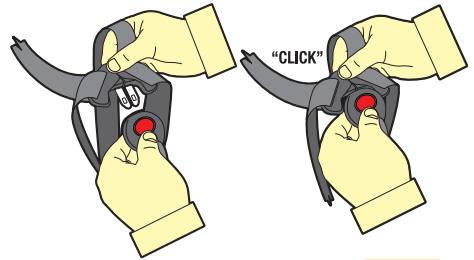

Figure 6
Step 7: Engage and disengage the Tongues and Buckles several times until a strong audible “CLICK” is heard when inserting the last tongue (refer Figure 6).